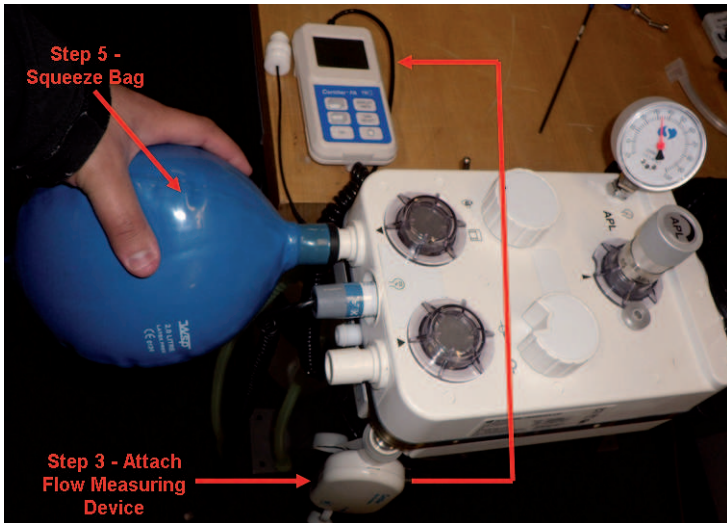

Figure 33 - Steps 3 & 4 of the Inspiratory Valve Test
3. Remove the bag on the bag port and attach a flow measuring device as indicated in Figure 33.